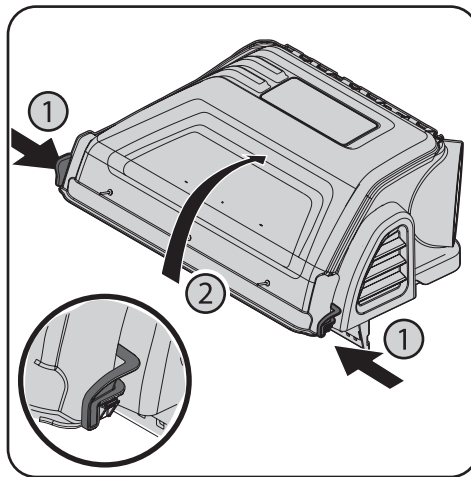

Figure 5-3
1. Open hood by pushing in on the rear side tabs with your hand (1), and lifting the cover with your other hand in the center rear of the bagger cover (2) as shown Figure 5-3.